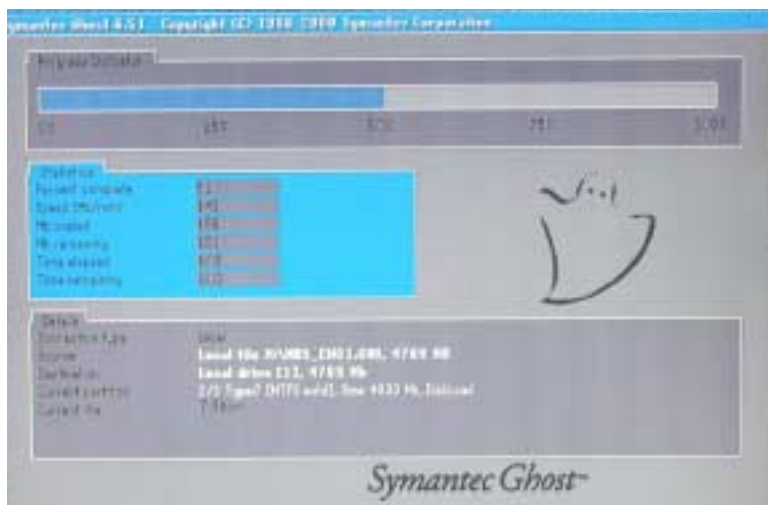

Figure 15-22 Image Transfer Window
7. At, click on *OK* button to open "Image Transfer" window (see Figure 15-22).